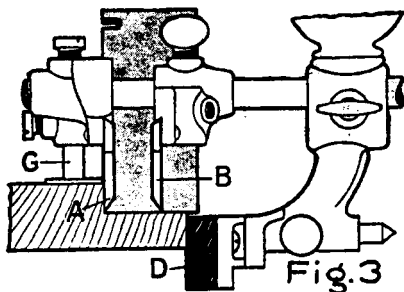

Fig. 3
Fig. 3—RABBET AND FILLET—Attach Fence (D), putting Arms through upper holes. The Fence regulates the width of the cut and if required, slides under the cutter. The Sliding Section (B) also slides under the cutter, forming a support on the outer edge of the rabbet. Gauge (G) regulates the depth of the cut.